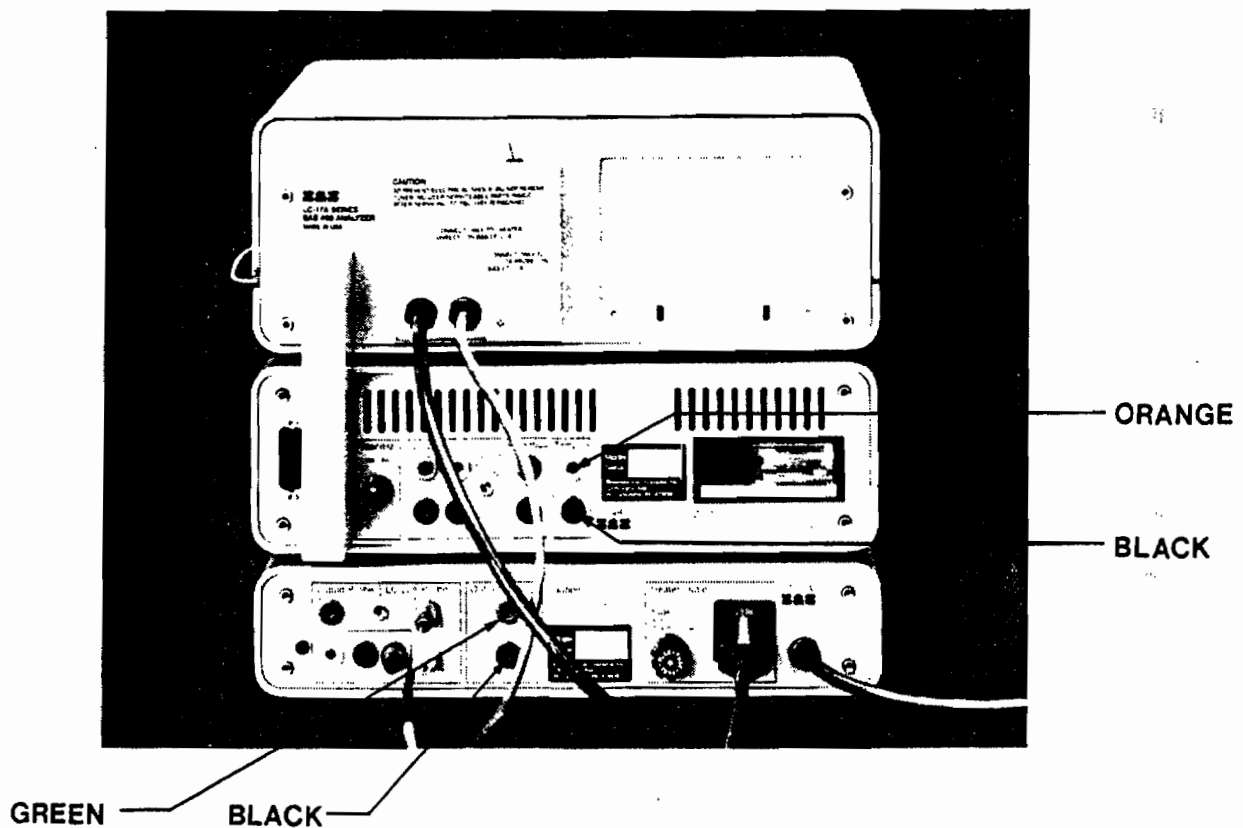

Figure 10-3. Electrical connections for LC-17AT Preheater Module.
5. Place the LC-22A Temperature Controller immediately under the LC-4B controller(s), per Figure 10-3.